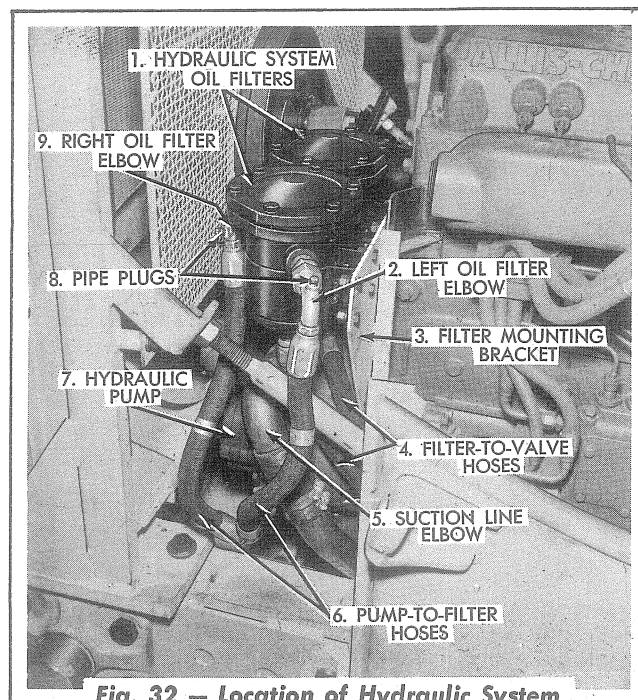
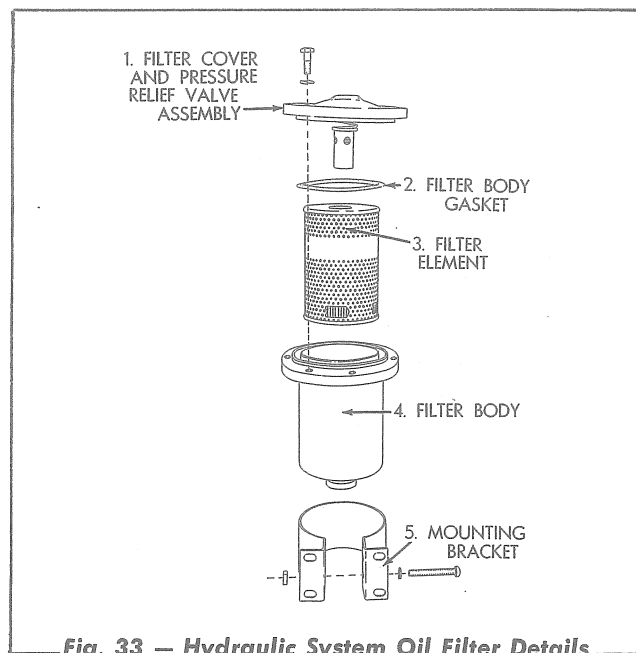

Fig. 32 — Location of Hydraulic System Oil Filters
Fig. 33 — Hydraulic System Oil Filter Details
The hydraulic system oil filters are mounted on a bracket and located above the hydraulic pump (Fig 32). The filters are of the full flow type and contain replaceable type elements. A pressure relief valve is provided in each filter (refer to Fig. 33). If the filter element becomes clogged, or if in cold weather the oil is too thick to flow through the filter element, the relief valve opens and bypasses the oil directly to the filter outlet.
1. Remove the capscrews and lockwashers attaching the filter cover to the filter body and remove the filter cover. The pressure relief valve (Fig. 33) is an integral part of the cover.